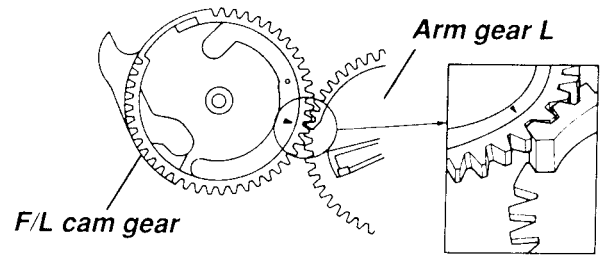

Fig. 4-1-12 Phase matching
- Align the ▼ mark on the F/L cam gear and the tip of the gear tooth (thicker) of the arm gear L. (Refer to Fig. 4-1-12.)